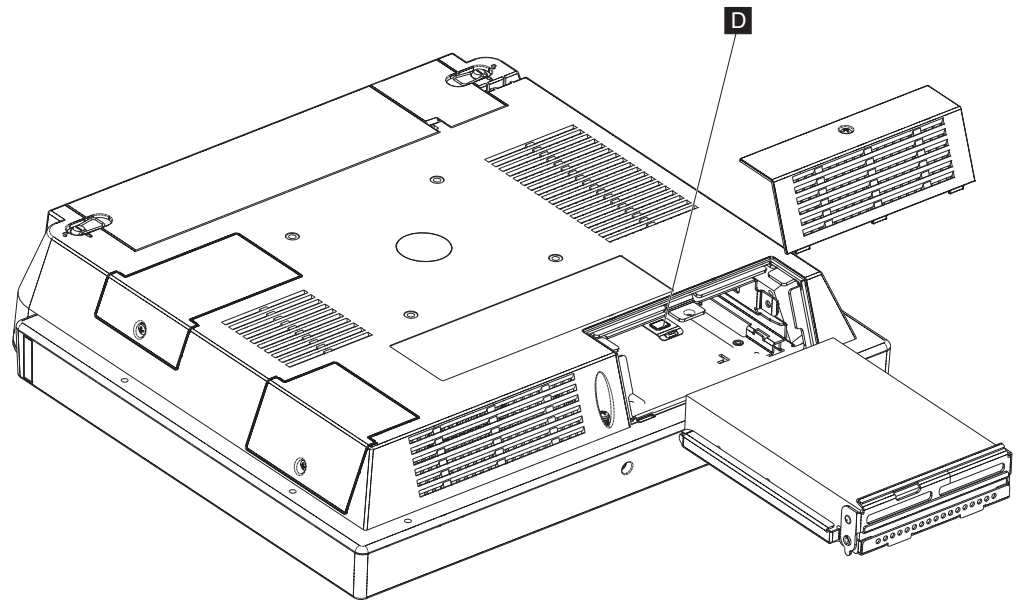

Figure 21. Removing the hard drive
3. Remove the hard disk drive (HDD) assembly by pressing downward on the drive bracket (**D** in Figure 21) in the area identified in blue (1) while pulling the handle (blue 2) of bracket down and outward.
3. Follow the steps in Figure 21 on page 35.